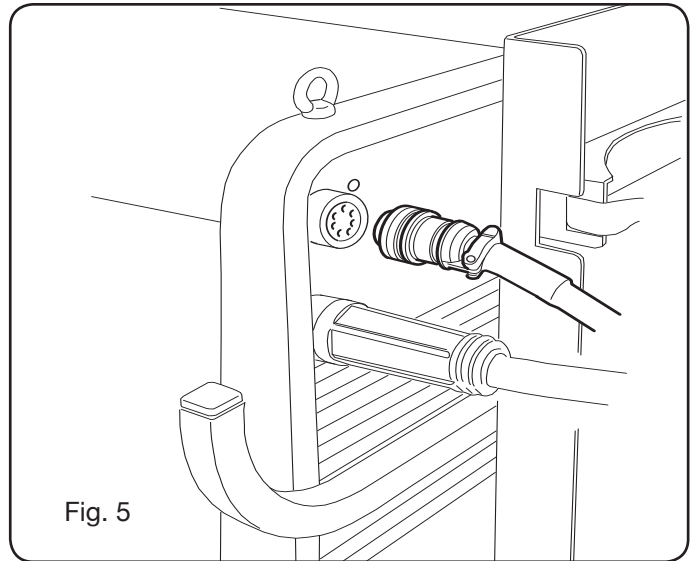

Fig. 5
- Connect all wiring on the back of the power source, as shown in fig. 5.